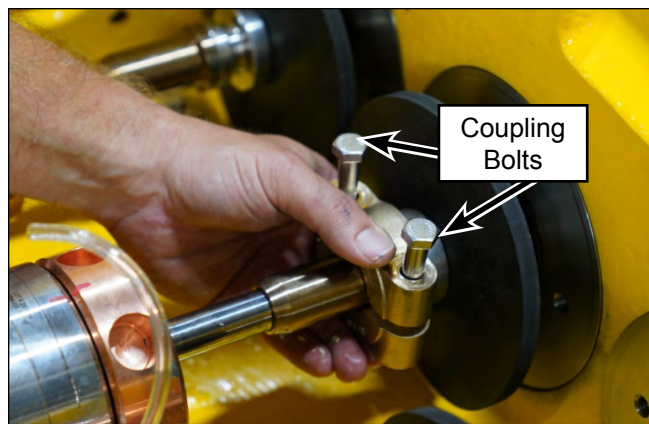

Figure 60: Install Coupling Bolts.
7. Place the plunger coupling into position and install the coupling bolts (Figure 60). Tighten the bolts to 20 ft.-lb.(27 N·m).